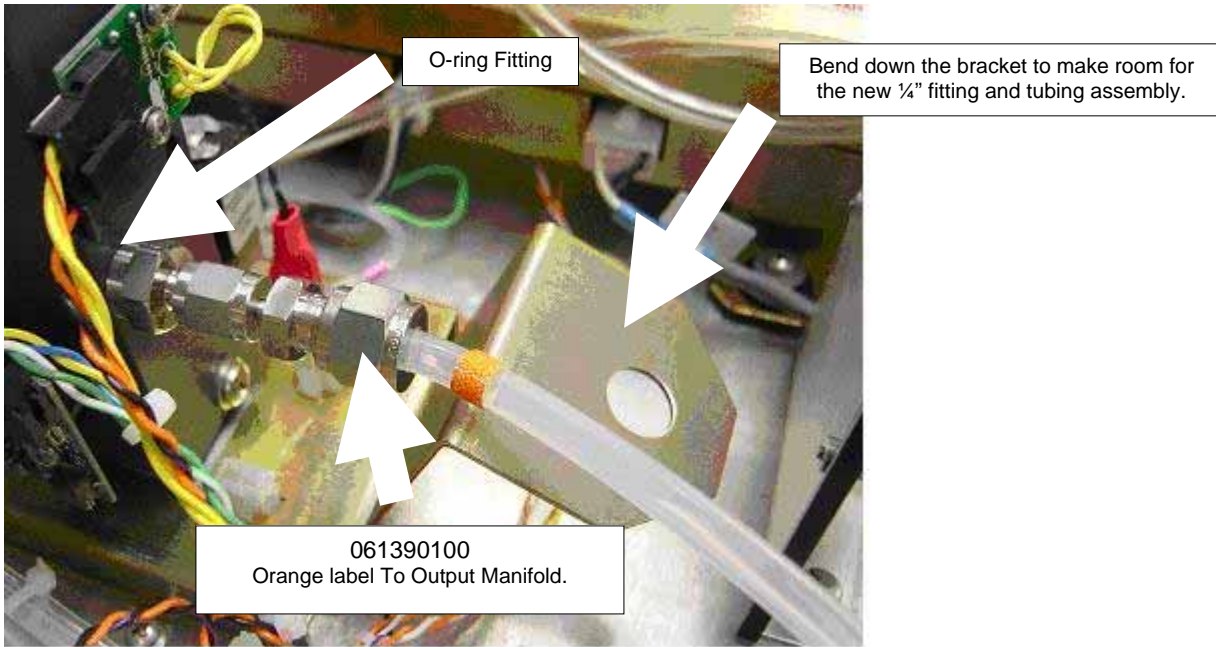

Figure 6
11. Bend down the bracket to make room for the new 1/4" reducer fitting and tubing assembly. See Figure 6.